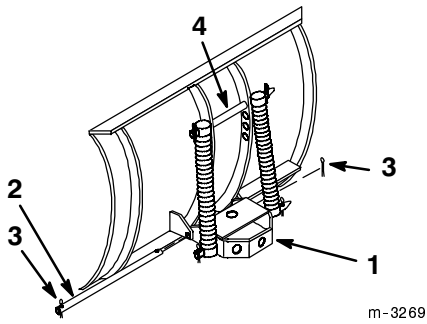

Figure 2
2. Slide the rod through the holes and secure with two 1 in. (25 mm) cotter pins (Fig. 2).